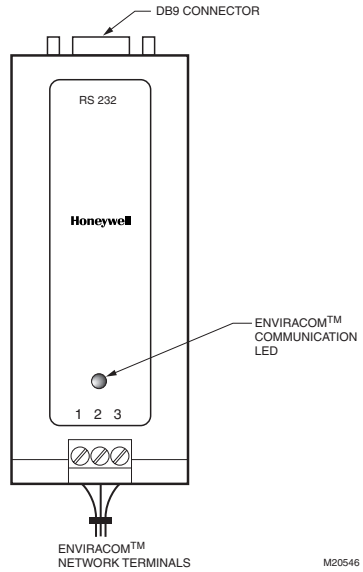

Fig. 1. Wiring W8735A.
1. Refer to Fig. 1 for wiring diagram.